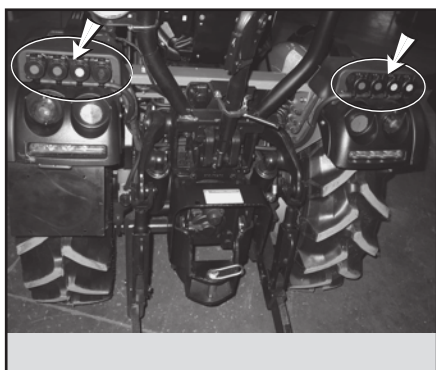

Fig. 5.69
In the articulated model (AR), the hydraulic ports are located just above the rear fenders (Fig. 5.69).